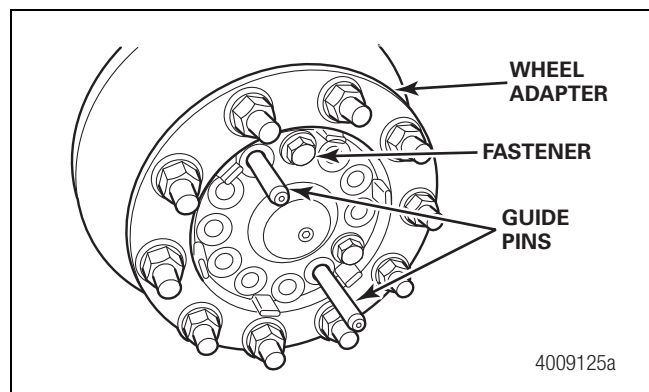

Figure 6.20
10. Install the wheel adapter onto the rotor. Figure 6.20.